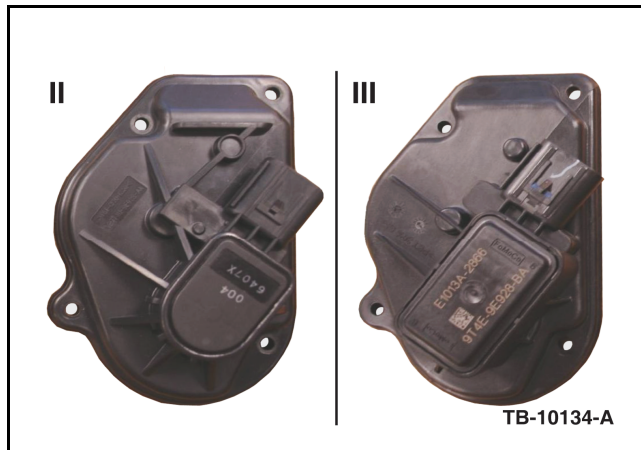

Figure 1 - Article 11-4-23
1. Inspect the throttle body to determine type of throttle position sensor (TPS). (Figure 1)